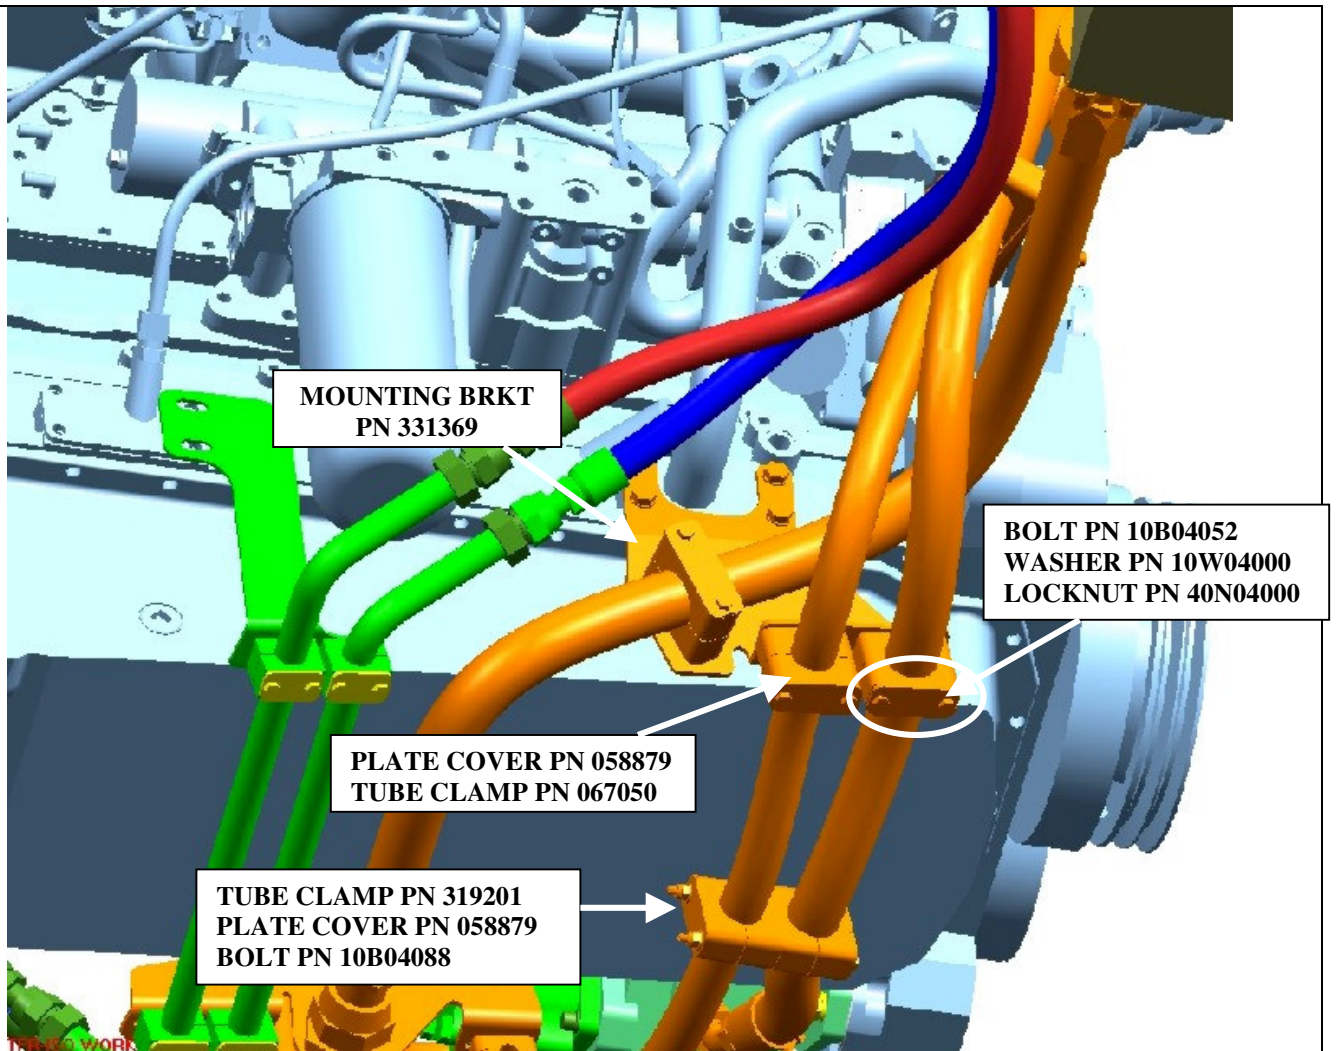

Figure 1 – Mounting Bracket Installation
8. Remove the existing hydraulic and power steering lines bracket and replace with new bracket (NF PN 331369) reusing existing hardware to secure. Refer to Figure 1.
11. Add tube clamps (NF PN 067050) to the bracket attached in Step 8. Refer to figure 1 for hardware.
12. Add second set of tube clamps (NF PN 319201) to the lines as shown in Figure1.